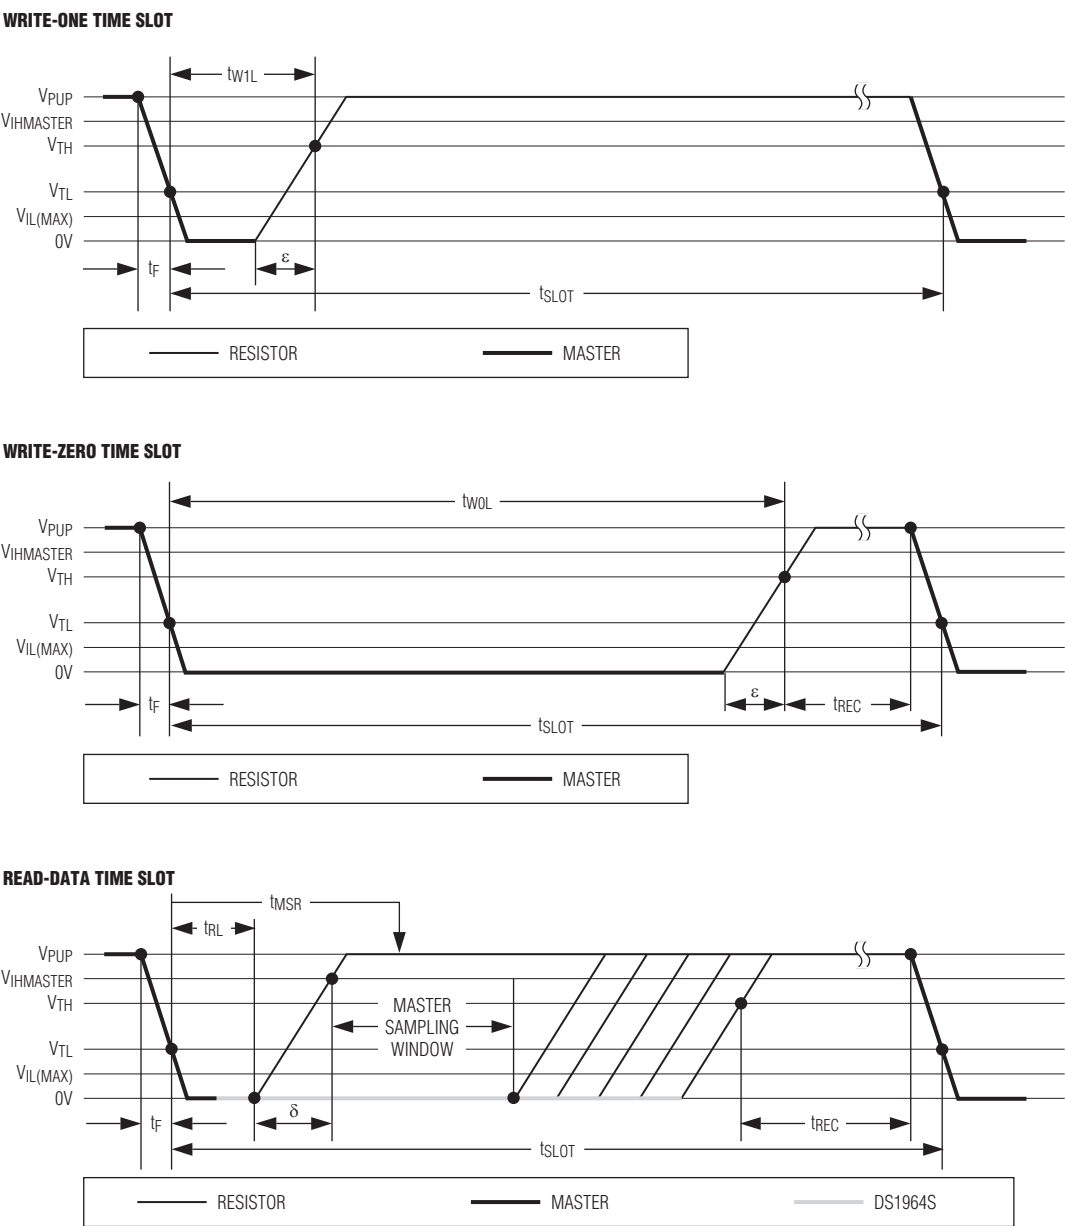

Figure 6. Read/Write Timing Diagrams
**Note 16:** ε in Figure 6 represents the time required for the pullup circuitry to pull the voltage on IO up from VIL to VTH. The actual maximum duration for the master to pull the line low is tW1L(MAX) + tF - ε and tW0L(MAX) + tF - ε, respectively.
**Note 17:** δ in Figure 6 represents the time required for the pullup circuitry to pull the voltage on IO up from VIL to the input-high threshold of the bus master. The actual maximum duration for the master to pull the line low is tRL(MAX) + tF.
Data communication with the DS1964S takes place in time slots that carry a single bit each. Write time slots transport data from bus master to slave. Read time slots transfer data from slave to master. Figure 6 illustrates the definitions of the write and read time slots.